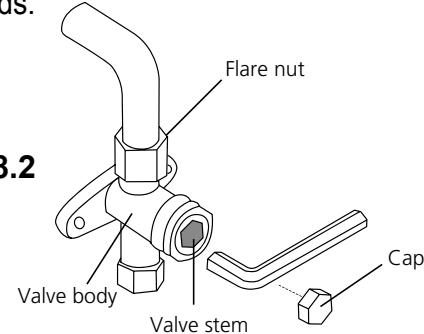

**Fig. 8.1**
- 2. Remove the electric cover of the outdoor unit. If there is no cover on the outdoor unit, disassemble the bolts from the maintenance board and remove the protection board. (See Fig. 8.1)